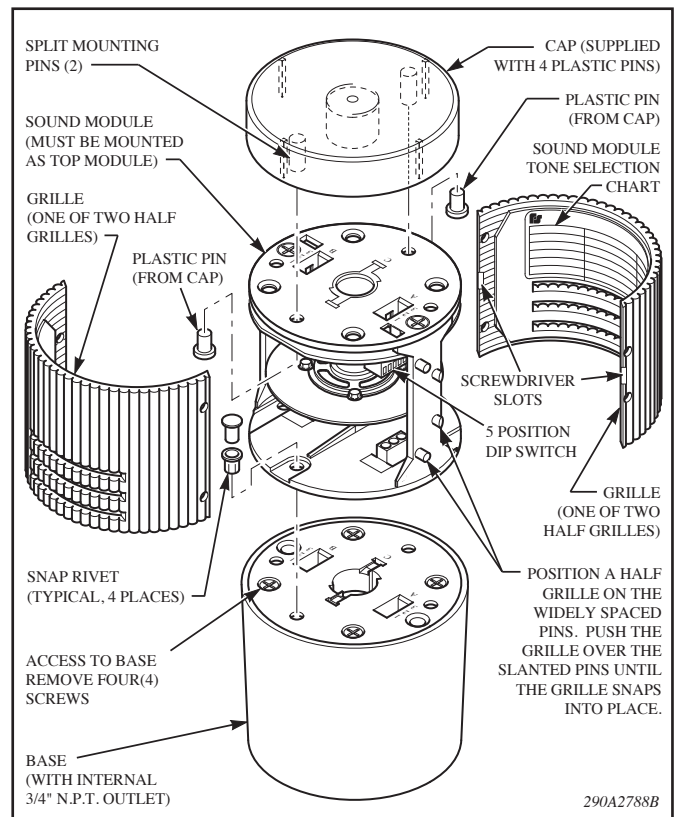

Figure 4.
2. See figure 4. There are four holes located near the edges of the Sound Module's clear bottom plate which align with the holes in the Base or Light Module beneath it. To secure the units together, fully install one snap rivet (supplied with grille kit) in each of the 4 holes. Press the head of each rivet until it snaps in place.
3. Retain the four plastic pins that come with the cap (supplied with the Base unit). Install the cap on top of the Sound Module by aligning the two split pins on the cap with the snap rivet holes in the Sound Module's top plate. Press down on the cap until it snaps in place. See figure 4. Secure the cap in place by fully inserting one plastic pin in the center of each of the cap's split pins through the hole in the circuit board.